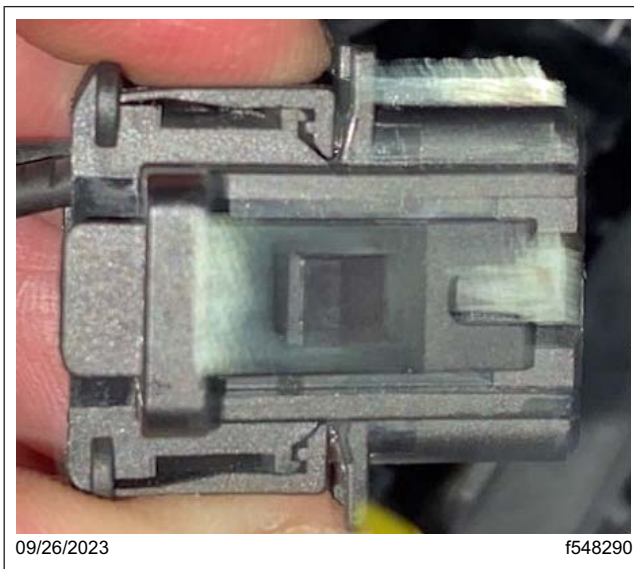

Fig. 22, SSAM X10 Connector Locked
8.6 Lock the X10 connector. See Fig. 22.